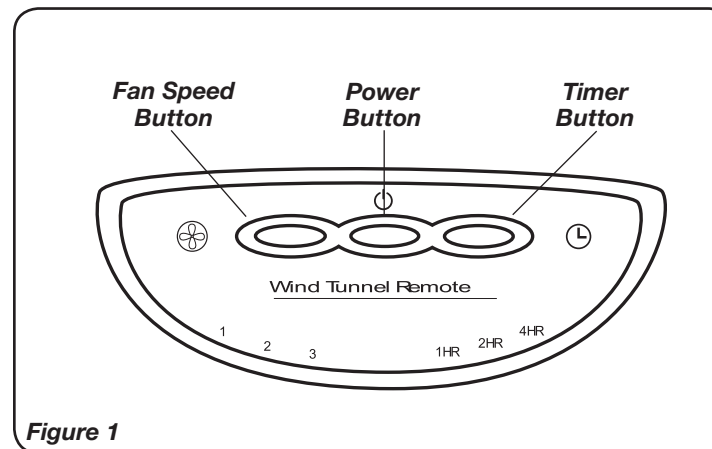
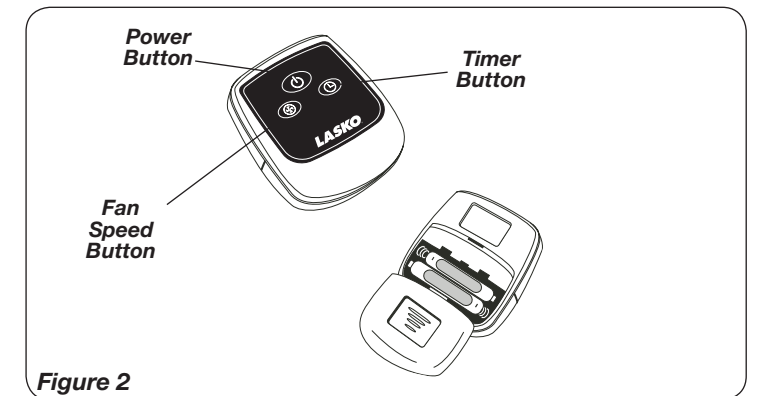

Figure 1
Figure 2
This Fan may be operated by the manual controls located on top of the unit (as shown in *Figure 1*) or by the Remote Control (shown in *Figure 2*).
7. **FAN SPEED:** You may now adjust the fan speed to the desired level, 3 (High), 2 (Medium), or 1 (Low) by pressing the **Fan Speed Button** (⊕) on the Fan. (*Figure 1*)
### REMOTE CONTROL (Figure 2)
1. Install batteries (not supplied) as shown in *Figure 2*. The battery is type "AAA".